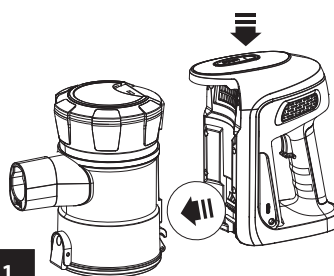

Fig. 1
1. Press the dust container release button (9) and remove the dust container from the motor module (fig.1).